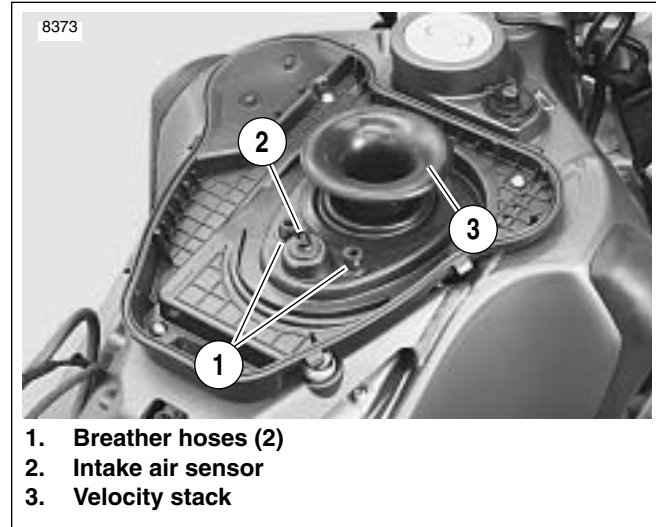

Figure 1-43. Air Cleaner Baseplate Assembly
3. See Figure 1-43. Make sure two crankcase breather hoses (1) and intake air sensor (2) are captured in base-